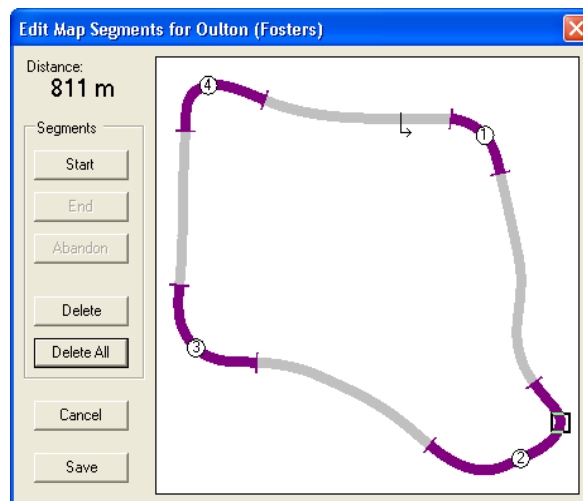

Figure 24 - Edit Map Segments Dialog (Deleting a Segment)
3. Place the cursor over the segment to be deleted by clicking the map anywhere in the segment. The **Delete** button is enabled (see Figure 24).